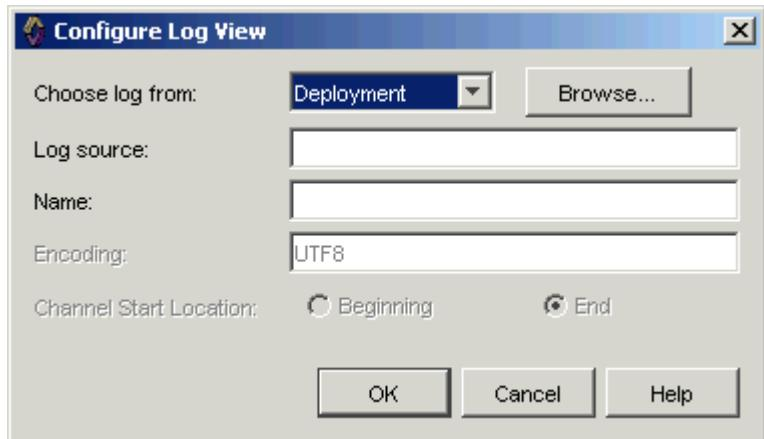

Figure 27-17 Configure Log View
1. Select **View > Logs**. The Configure Log View screen appears, as shown in Figure 27-17.